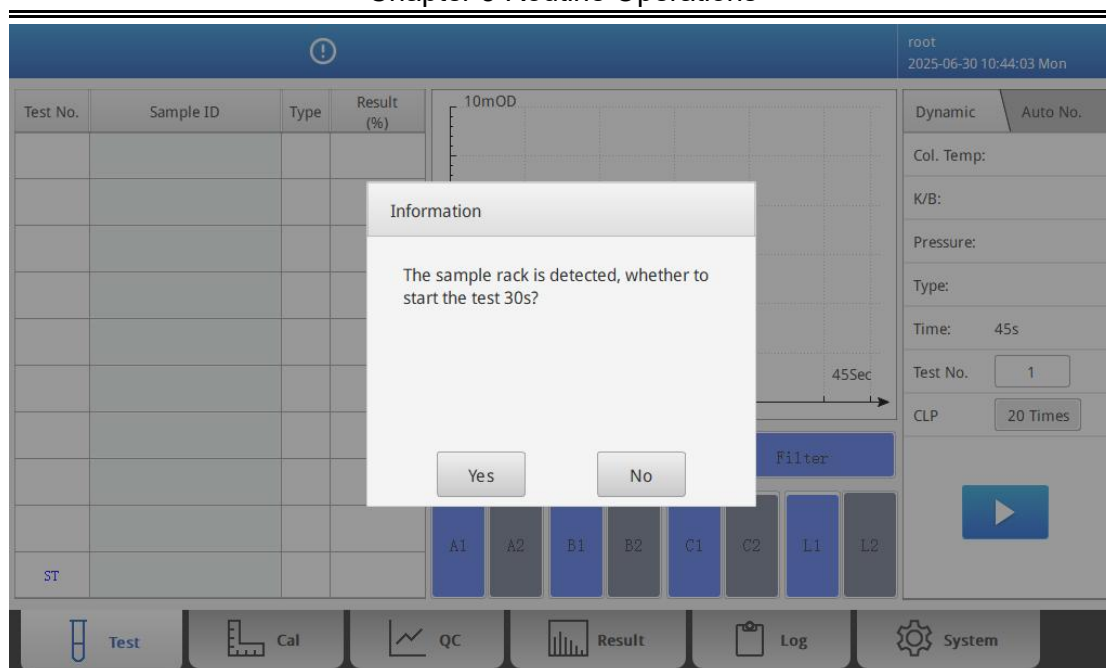

Fig. 5-4 View of Test Interface
3) After the system cleaning process is completed, if sample rack is detected in the sample loading site, the analyzer will automatically start the test. A prompt will display as **Fig 5-4** .